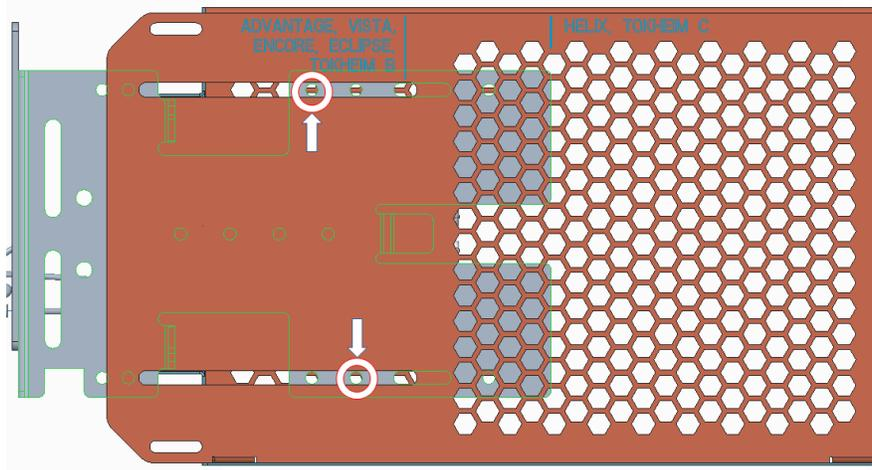

Figure 121
- 6) Insert and tighten two of the thread forming 006-8626667 screws at the locations shown in Figure 121 to secure the wire guard (497-0522796) to the NCR heater assembly.